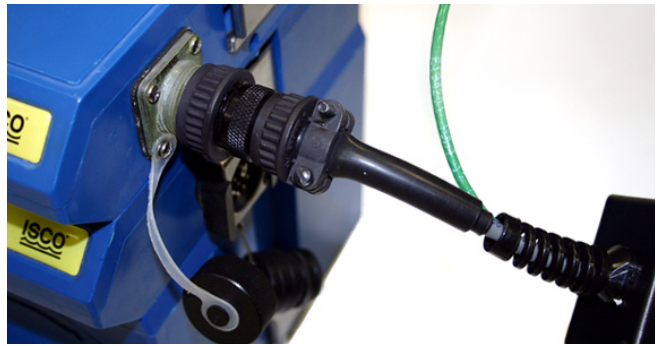

Figure 6: Connect Secondary Protector to 2103
7. Disconnect the modem line from the 2103. Connect the secondary protector to the 2103, as shown in Figure 6. Connect the modem cable to the end of the secondary protector.